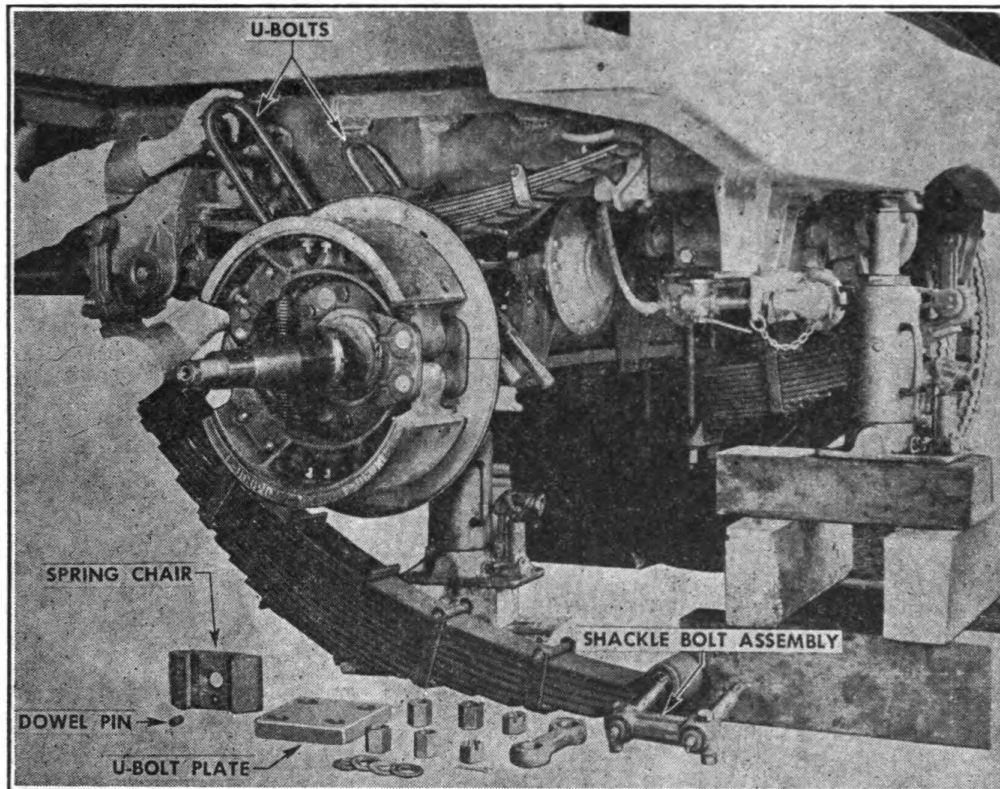

FIGURE 14. AXLE REMOVAL—SEMI-TRAILER.
2. **AXLE REMOVAL—SEMI-TRAILER (Fig. 14).**—*a.* Place two jacks, plus wood blocking, under the rear crossmember. Jack the unit up until weight of frame and body rests on jacks.
e. Drive out upper and lower shackle bolt assemblies (Fig. 14).